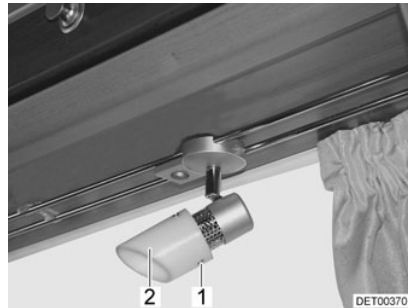

Fig. 95 Halogen spotlight (movable)
- Loosen the fixing screws (Fig. 95,1).
- Carefully remove the lamp chalice (Fig. 95,2) from the holder.